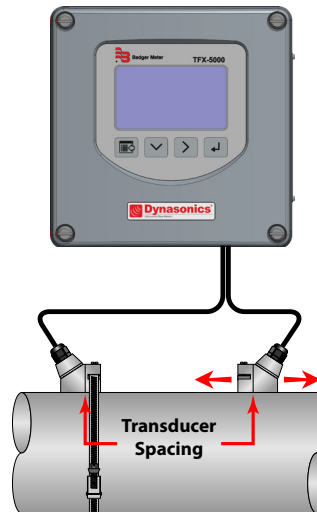

Figure 9: Transducer positioning
5. Place the downstream transducer on the pipe at the calculated transducer spacing. See Figure 9 on page 9. Apply firm hand pressure.
**NOTE:** Mounting the high temperature transducers (HZ) is similar to mounting the RZ, NZ, WZ, LZ, and YZ transducers. High temperature installations require acoustic couplant that is rated not to flow at the operating temperature of the pipe surface.